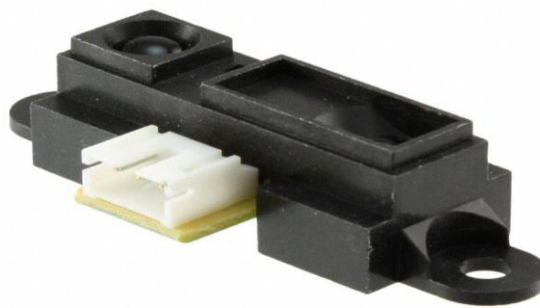

Figure 1. IR Sensor[1]
- In the following questions, you want to calibrate a linear sensor using the circuit in Fig. 1 so that its output range is 0 to 5V. Identify which of V1 and V2 will be the input voltage and which the reference voltage, the value of the reference voltage, and the value of R_f/R_i in each case. If the calibration can't be done with this circuit, explain why.